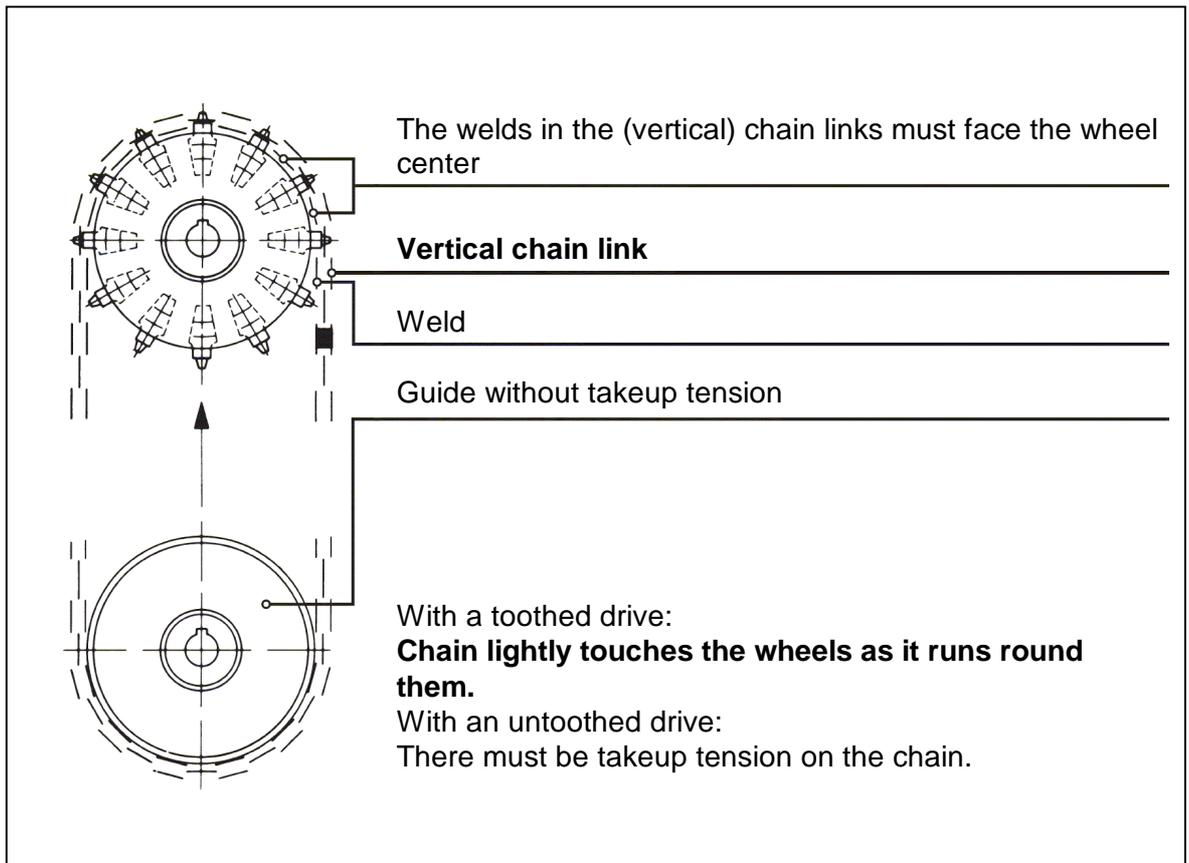

Fig. 6
4.5 Join the ends of the chain loops (fig. 6).